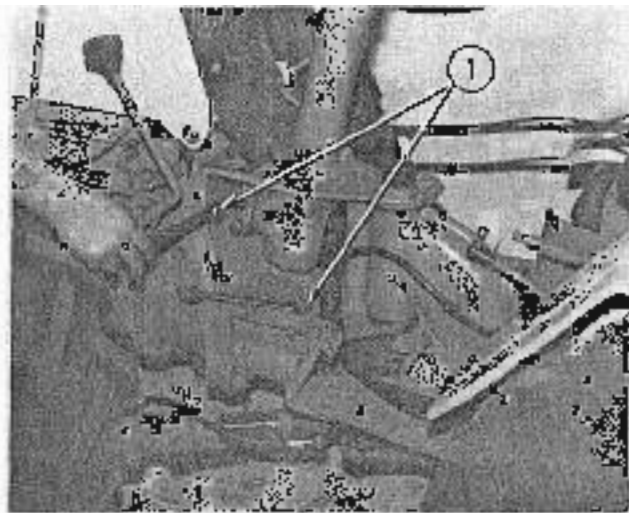

FIG. 8
(9) Remove the (2) 14 x 35mm. bolts threaded into the transmission housing and the (4) 12 x 30mm. bolts threaded into the lower drive shaft support casting. (1, Fig. 8)